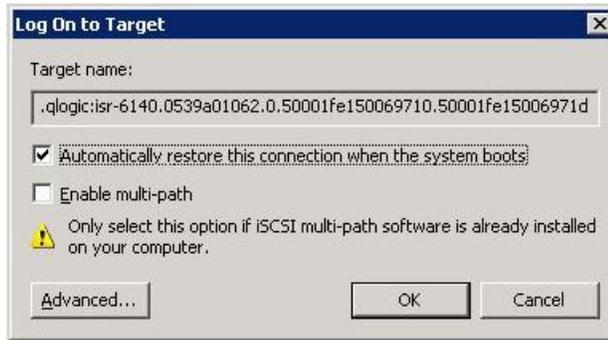

Figure 24 Connected target status
- j. Click **Automatically restore this connection when the system boots** (do not enable multipath), and then click **OK** (Figure 24).